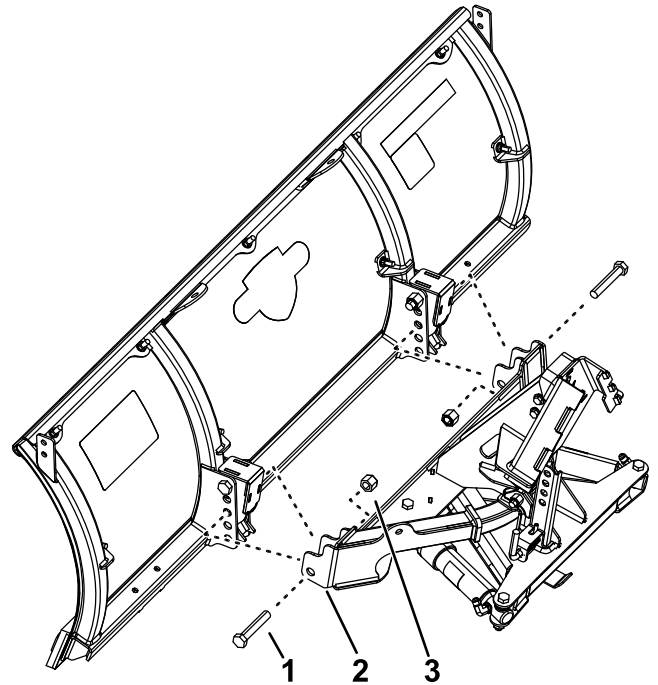

Figure 4
1. Attach the push frame to the plow using 2 bolts (5/8–11 x 3-1/2 inches) and 2 nylon locknuts (5/8 inch) as shown in Figure 4.